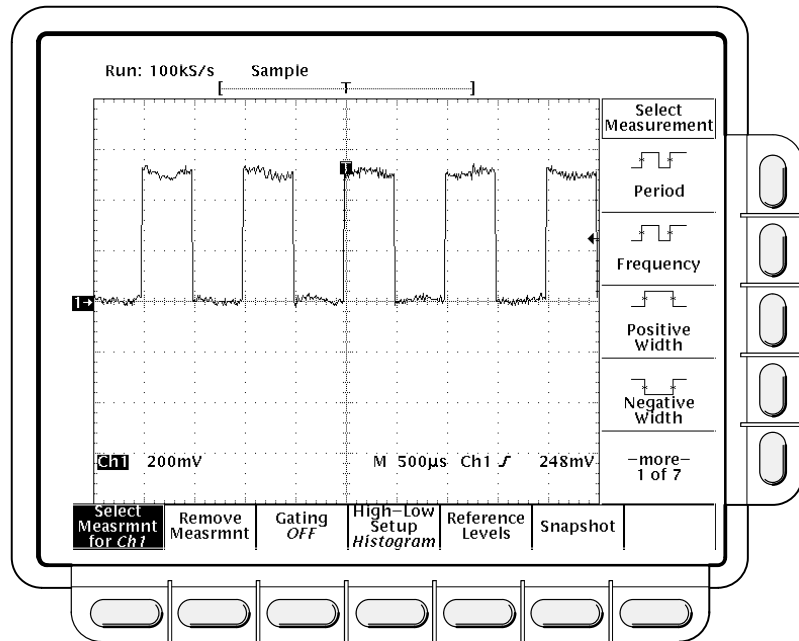

Figure 1-16: Measure Main Menu and Select Measurement Side Menu
4. Press **MEASURE** to display the Measure main menu (see Figure 1-16).